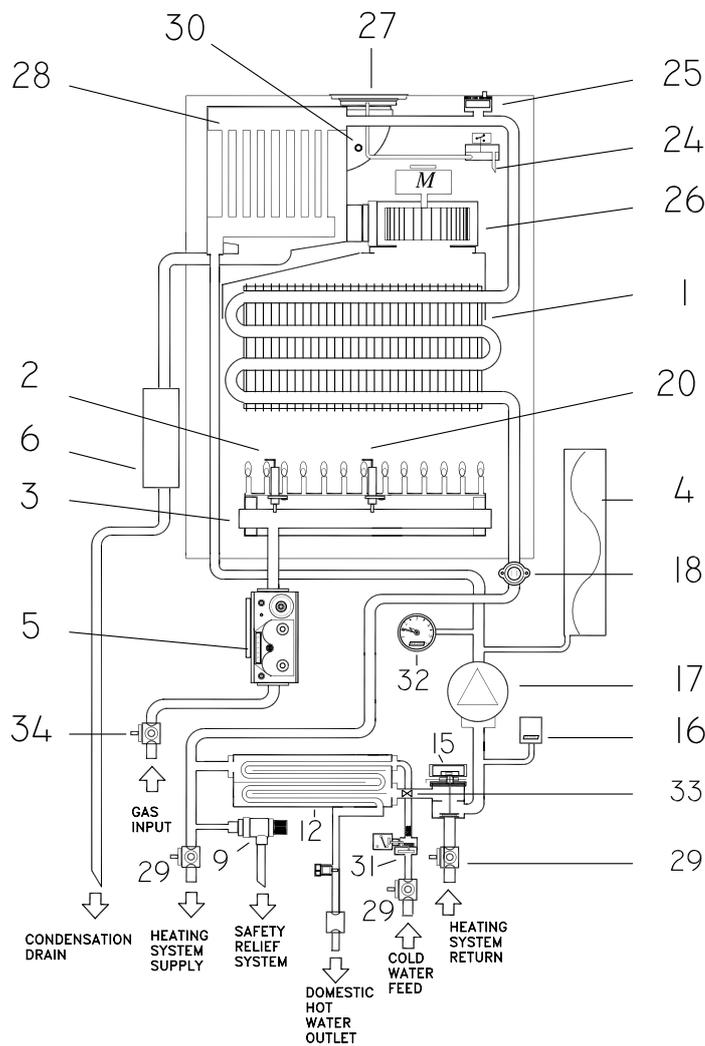

Fig. 1
BASIC COMPONENTS - (See figure 1)
1.2 Fig.1.